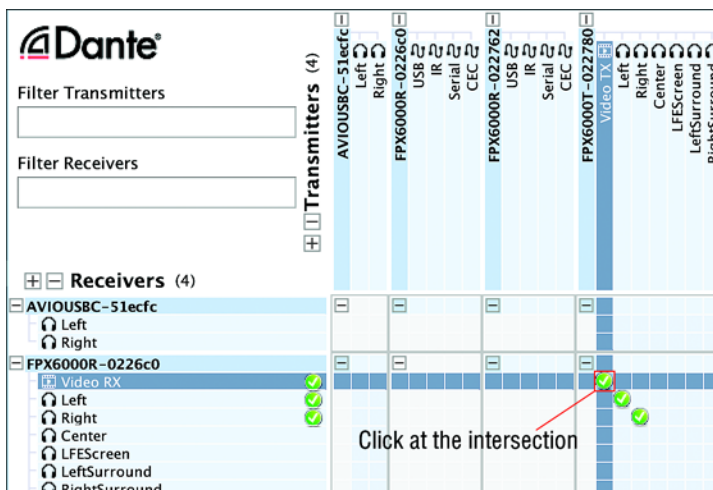

Figure 15. Displaying FPX6000R signal receiving capabilities
5. Locate the FPX6000R in the receive channel on the left-hand side of the Dante Controller, then click the “+” sign next to the Unit Name to display the receiver’s signal receiving capabilities (see **figure 15**).
- Click at the intersection of the two units (see **figure 15** on page 17) to create a video  subscription, an audio  subscription, or both.